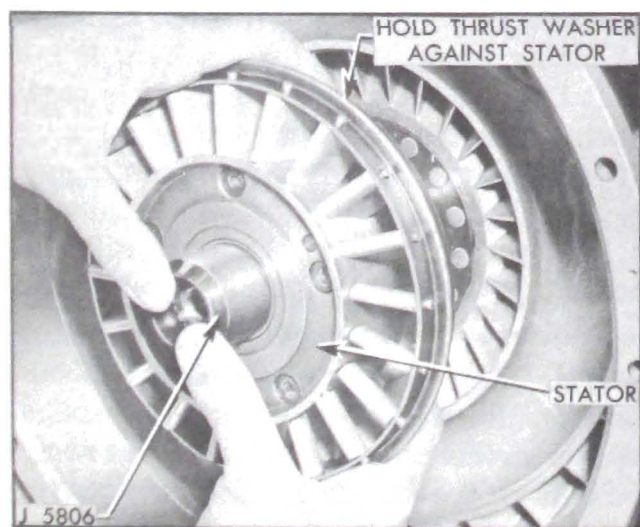

Figure 5-29—Removing Stator Assembly
5. Install Tool J 5806 over input shaft with beveled end outward. Pull stator forward on reaction shaft, grasp thrust washer and spacers located behind the stator to retain all free wheeling parts in the stator, then slide the assembly forward upon the tool and remove from input shaft. See figure 5-29.